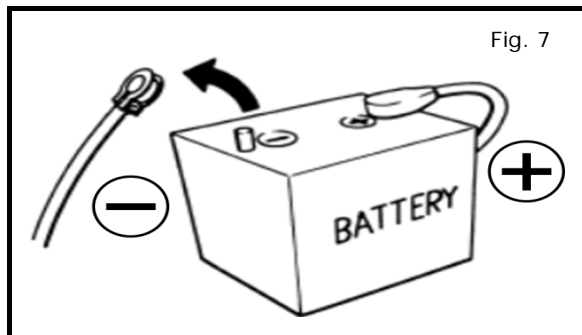

Fig. 7
- b) Remove and isolate negative terminal from negative post as shown in Fig. 7.